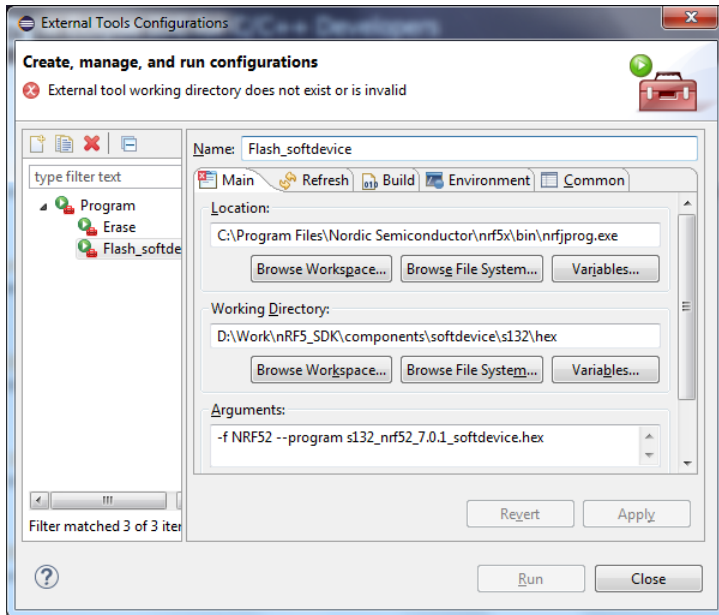

Figure 25: Adding *Flash\_softdevice* to External Tools Configurations
7. Click **Apply**, then click **Run** (Figure 25).